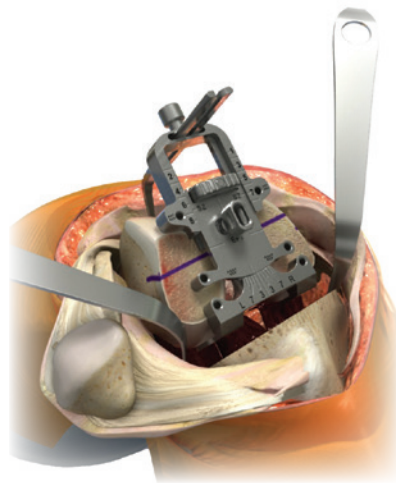

Figure 16
1. Place the Femoral Sizer flush to the resected distal femur by using the Quick Connect Handle to ensure both the posterior paddles of the Femoral Sizer are in contact with the underside of the posterior condyles (Figure 16).